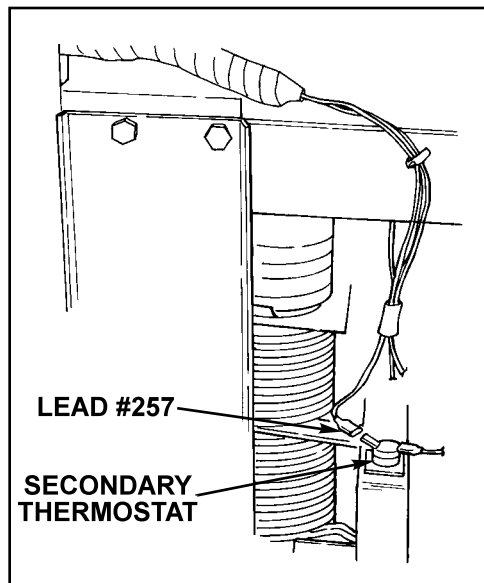

FIGURE F.20 - Lead #257 at Secondary Thermostat
2. Remove lead #257 at secondary thermostat. See Figure F.20 and refer to Wiring Diagram. Remove any cable ties and/or harness looms as necessary.
3. Attach leads from contactor coil. Attach any cable ties and/or harness looms cut at removal. Attach lead #257 at secondary thermostat. See Figure F.20.